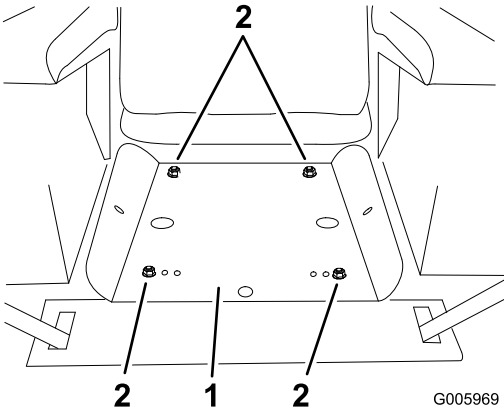

Figure 6
- Remove the nuts holding seat pan to the seat tracks (Figure 6). Remove the seat and set aside. Retain the seat pan fasteners for later use. Discard the conical spacers.